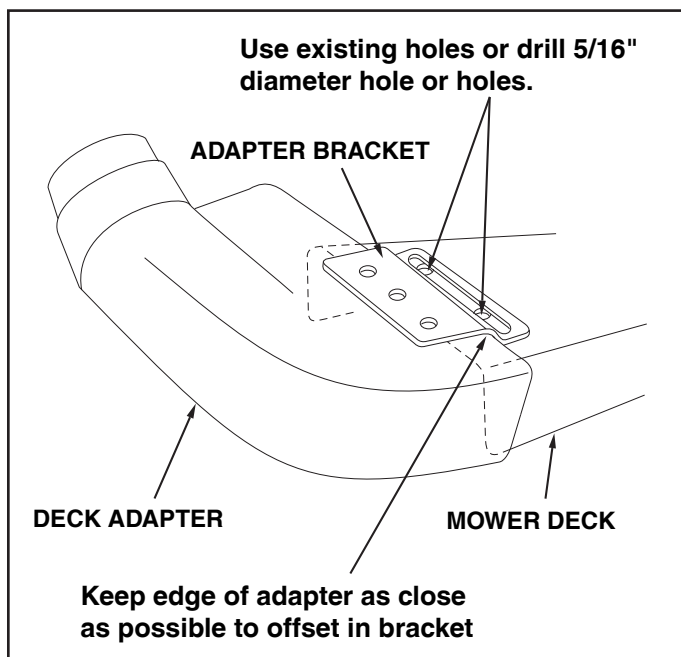

FIGURE 25
- Holding the adapter bracket and the deck adapter together, position the deck adapter on the mower deck. Keeping the edge of deck adapter as close as possible to the offset in the adapter bracket, see if the slot in the adapter bracket can be aligned with one or two of the deflector holes in your mower deck's discharge opening. If the bracket can not be located correctly using existing holes, it will be necessary to drill one or two 5/16" diameter holes in the deck. See figure 25.